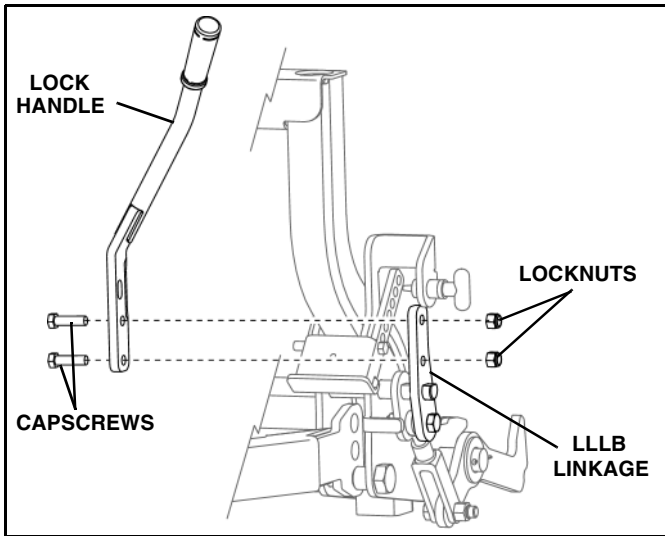

Figure 1-18
20. Position the lock handle on the Lower Light Lift Bar linkage and secure with two 1/2"-13 x 1-3/4" cap screws and two 1/2"-13 lock nuts. (See Figure 1-18).